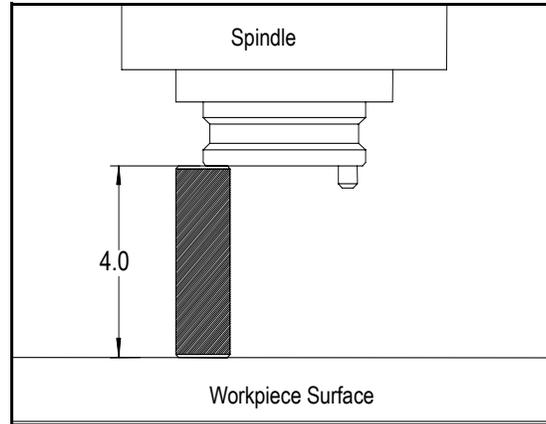

Figure 6-4: Z-Axis Location
5. Type-in the current programme position the spindle nose is above the workpiece e.g. Z4.0 (Figure 6-4:).